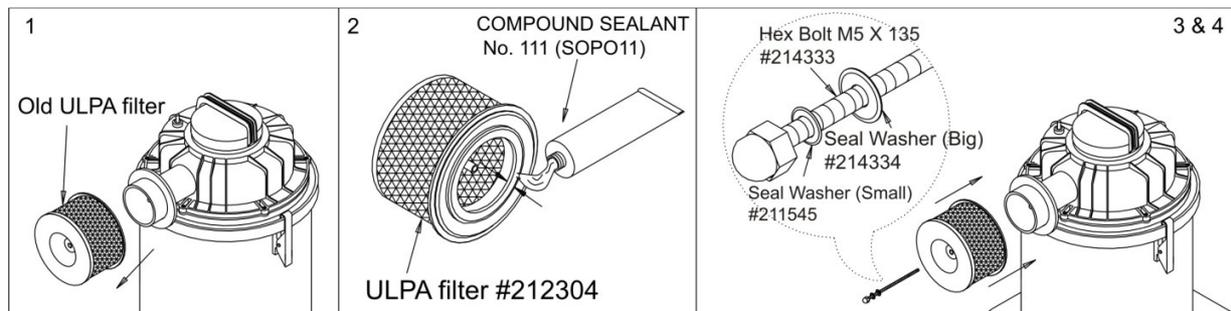

Fig. No. 2
2. Unscrew the bolt, which holds the ULPA filter in place (See No. 3 on Fig. No. 2 above). Remove the old ULPA filter and dispose of according to government regulations. (If applicable).
3. Apply the compound sealant to the inside lip on the rubber side of the new ULPA filter (See No. 2 on Fig. No. 2 above).
5. Tighten the new ULPA filter onto the arm using the Hex Bolt M5 X 135 with the 2 seal washers (1 big and 1 small) in place (See No. 4 on Fig. No. 2 above)